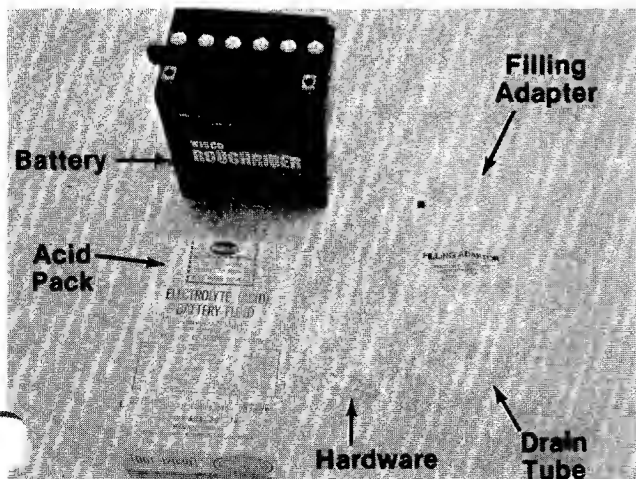

FIGURE 3.
3. Place one end of clear plastic drain tube on manifold of battery. See figure 3.
4. Remove the six fill caps from the top of the battery with a screwdriver. Care should be taken not to damage the fill caps. See figure 3.